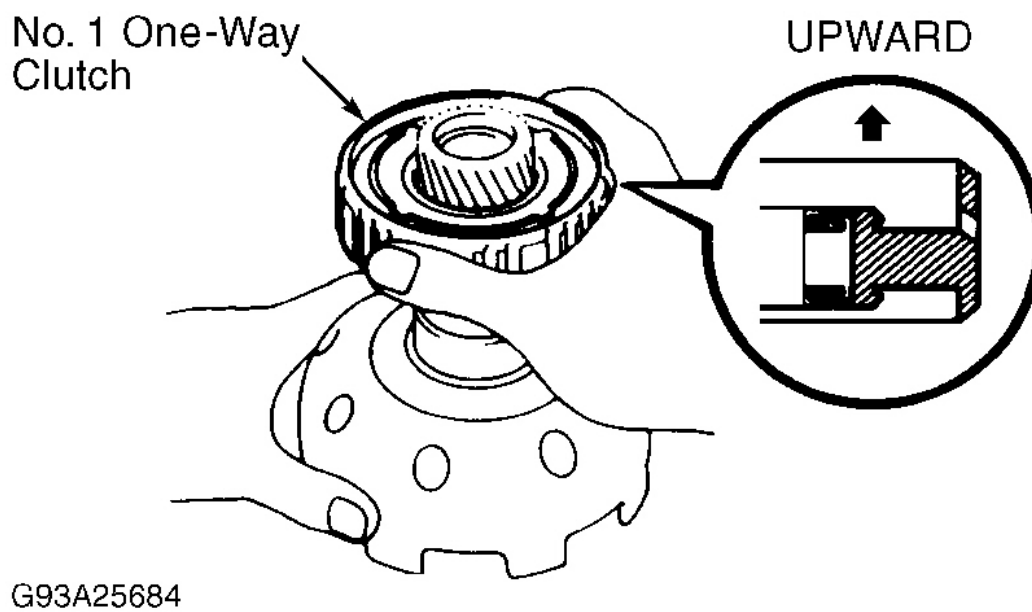

Fig. 37: Installing & Checking No. 1 One-Way Clutch
1. Hold sun gear drum and check rotation of one-way clutch. Clutch should turn freely clockwise and lock counterclockwise. See **Fig. 37** -37. Remove one-way clutch assembly. Note direction of clutch installation.
To reassemble components, reverse disassembly procedure. See **Fig. 39** . Ensure ends of oil seal rings are properly locked together and seal rings move smoothly. Install one-way clutch assembly in proper direction. Check one-way clutch operation. See **Fig. 37** -37.